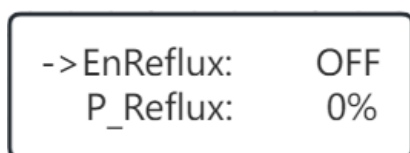
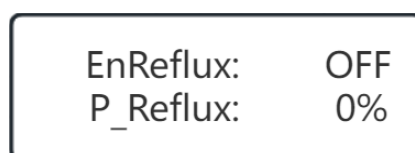

Figure 3.5-2 Setting the Anti-Backflow Status Menu
Figure 3.5-3 Setting the Backflow Status
- ③ Operate the [Λ][V] keys to move the setting cursor to **【EnReflux】**, as shown in Figure 3.5-2. After long pressing both keys, the anti-backflow status starts to flash and the setting cursor disappears, as shown in Figure 3.5-3. At this time, you can turn on or off the anti-backflow function by operating the [Λ][V] keys. After the setting is completed, long press both keys to exit the anti-backflow status setting, and the inverter automatically saves the set parameters.